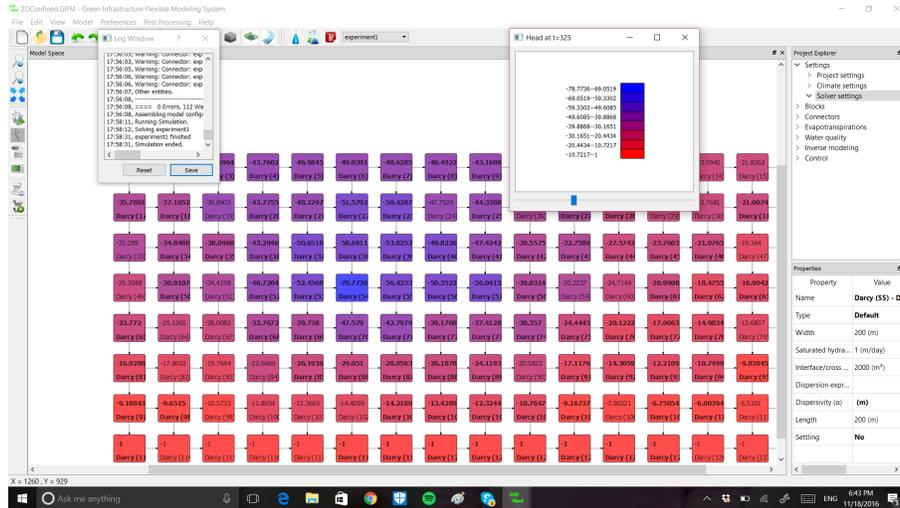

Figure 2.6: Spatial distribution of hydraulic head at  $t=325$
- **Examining the spatio-temporal variation of state variables:** From the top menu bar click on post-processing and then select **Blocks**→**Head**. Using the scroll bar in the legend box that will appear, change the time at which you would like to see the spatial distribution of hydraulic head over the domain (Figure 2.6).